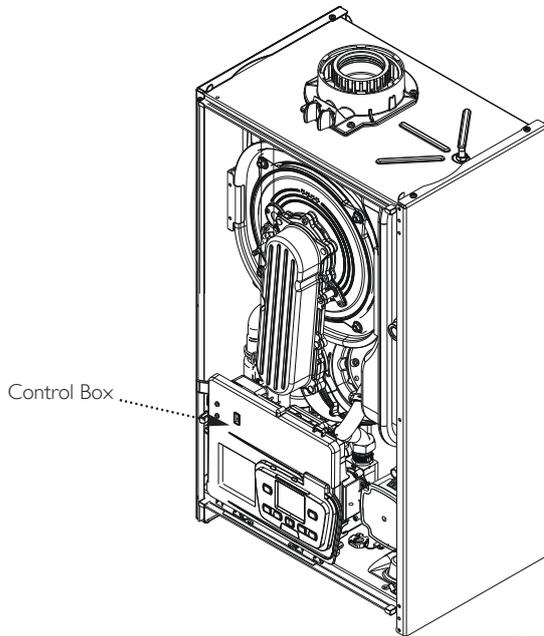

Fig. 32
2. Disengage the securing tab and hinge the control box (Fig. 32) downwards. Undo the terminal block cover securing screw and remove the cover.